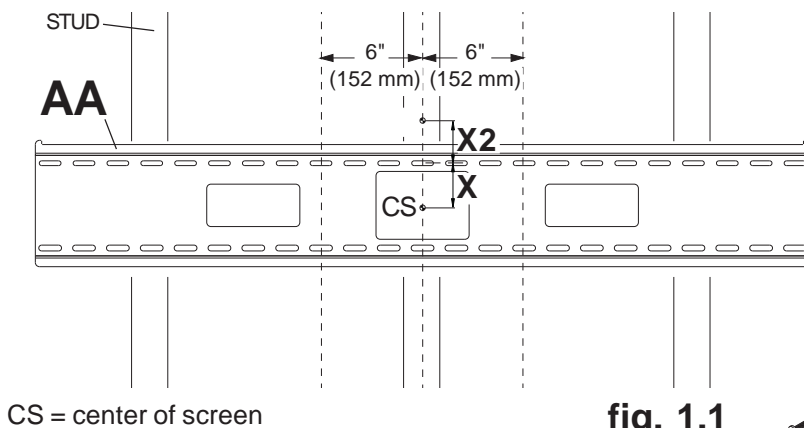

fig. 1.1
**1** Wall plate (AA) can be mounted to three studs that are 16" apart. Use a stud finder to locate the edges of the studs. Use of an edge-to-edge stud finder is highly recommended. Based on their edges, draw a vertical line down each stud's center. Place wall plate on wall as a template. The top mounting slots should be located above the desired screen center as indicated by dimension X in figure 1.1 and chart below. Level plate, and mark the center of the six mounting holes. Make sure that the mounting holes are on the stud centerlines. Drill six 1/2" holes through drywall and metal studs. **Note:** It may be necessary to drill 5/32" pilot holes prior to drilling 1/2" holes.